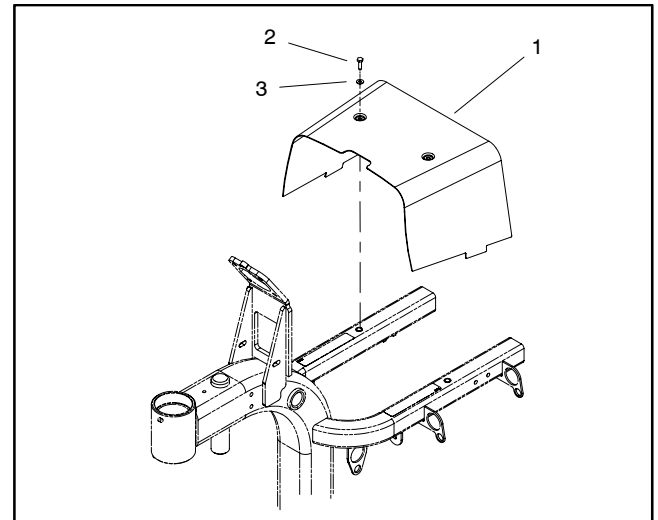

Figure 48
3. Remove two (2) cap screws and flat washers that secure center shroud to machine (Fig. 48). Lift center shroud from frame.
15. Position center shroud to frame and secure with two (2) cap screws and flat washers (Fig. 48).